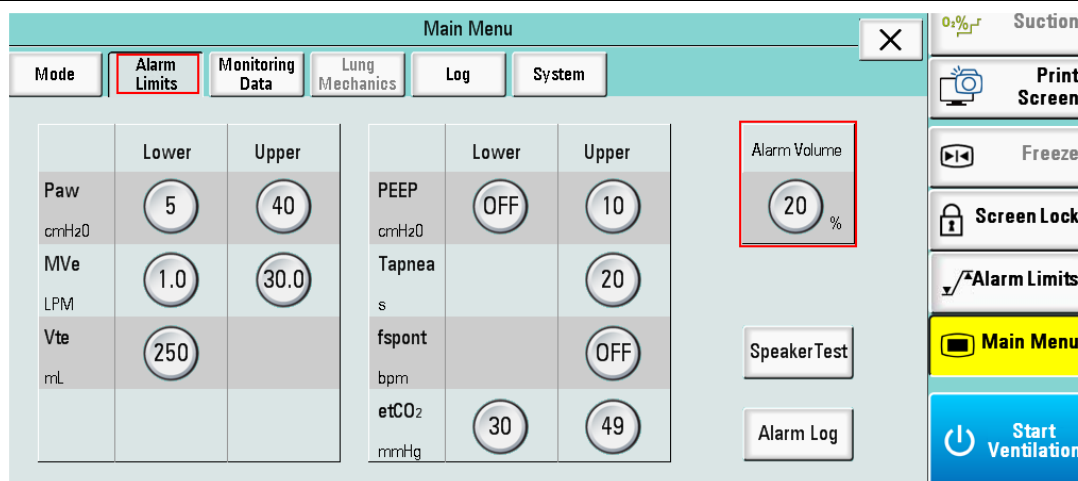

Figure 6-31
Step 1: Click “Alarm volume” when the key’s background color becomes yellow, then you can adjust the level of alarm volume, as shown in Figure 6-31.